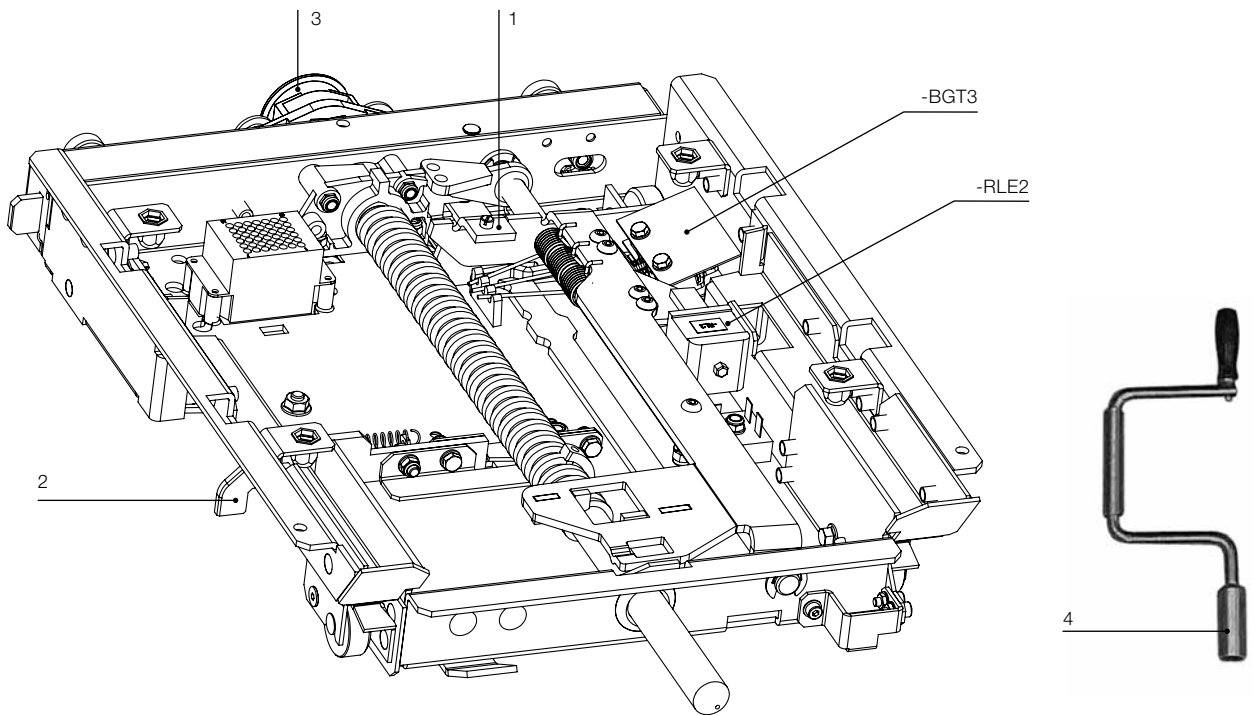

Fig. 12a - Locking devices on withdrawable truck.
- Electric lock which prevents the contactor being closed when the truck is not in the “racked-in” (200 mm), “test” (47.5 mm) and “racked-out” (0 mm) positions (-BGT3) (fig. 12a).
- Mechanical lock which prevents the contactor being racked-in and out when it is closed, and contactor closing when the truck is not in the “racked-in”, “test” and “racked-out” positions (1) (fig. 12a).
- Locking electromagnet on the contactor truck which, when there is no voltage, prevents racking-in or racking-out (-RL2) (fig. 12a).
- Mechanical lock which prevents contactor racking-in if the enclosure door is not closed (requires a reciprocal interlock in the fixed part) (126).
- Mechanical lock for the “test” position (2) (fig. 12a).
- Lock for different currents (5) (fig. 12a).